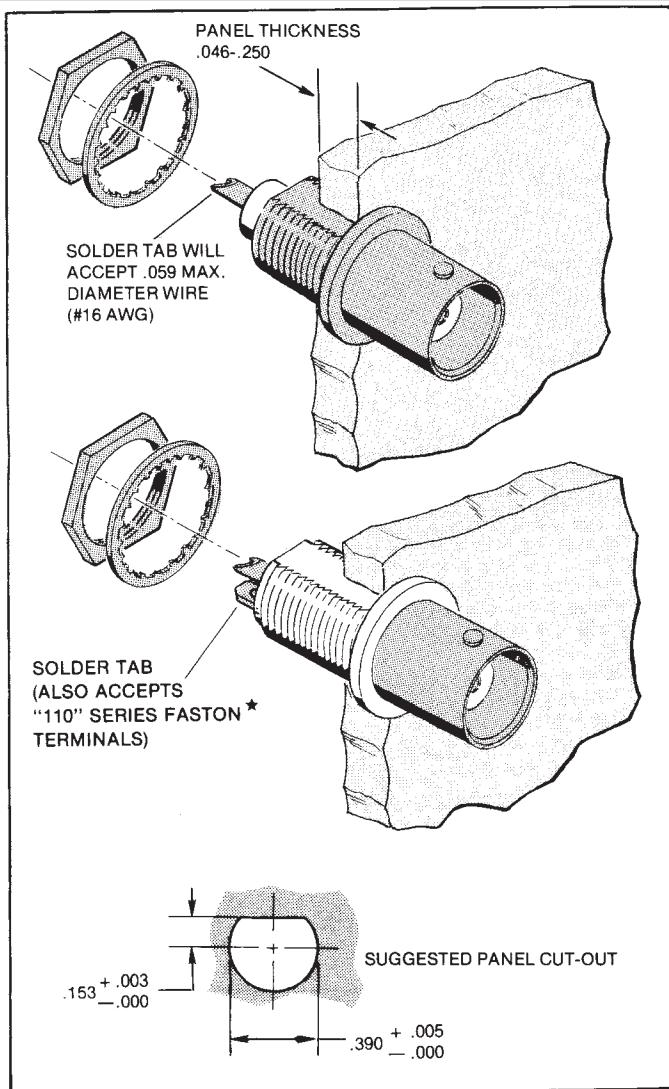

Figure 2
- First determine mounting requirements; panel cut out dimensions are shown in Figure 2.